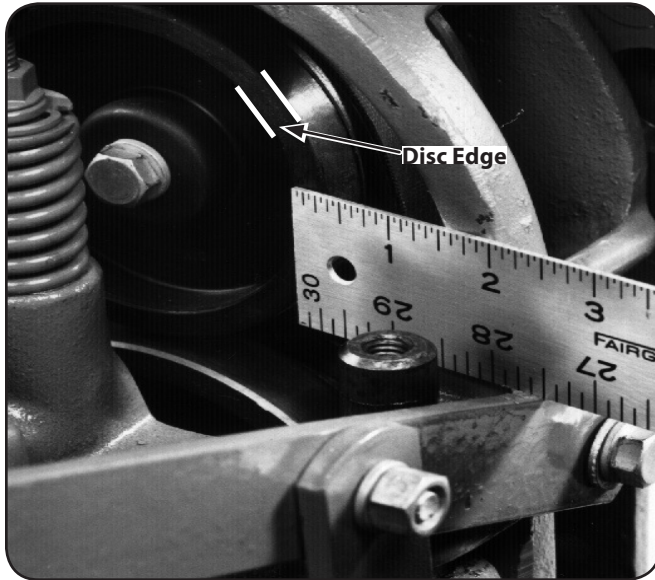

Figure 6-18
1. Measure the width of the outside edge of the disc as shown in Figure 6-18. Replace the disc before the rubber edge wears to a thickness of $\frac{1}{8}$ " or less. Failure to do so could cause the steel underneath the rubber to damage the transmission pulley.